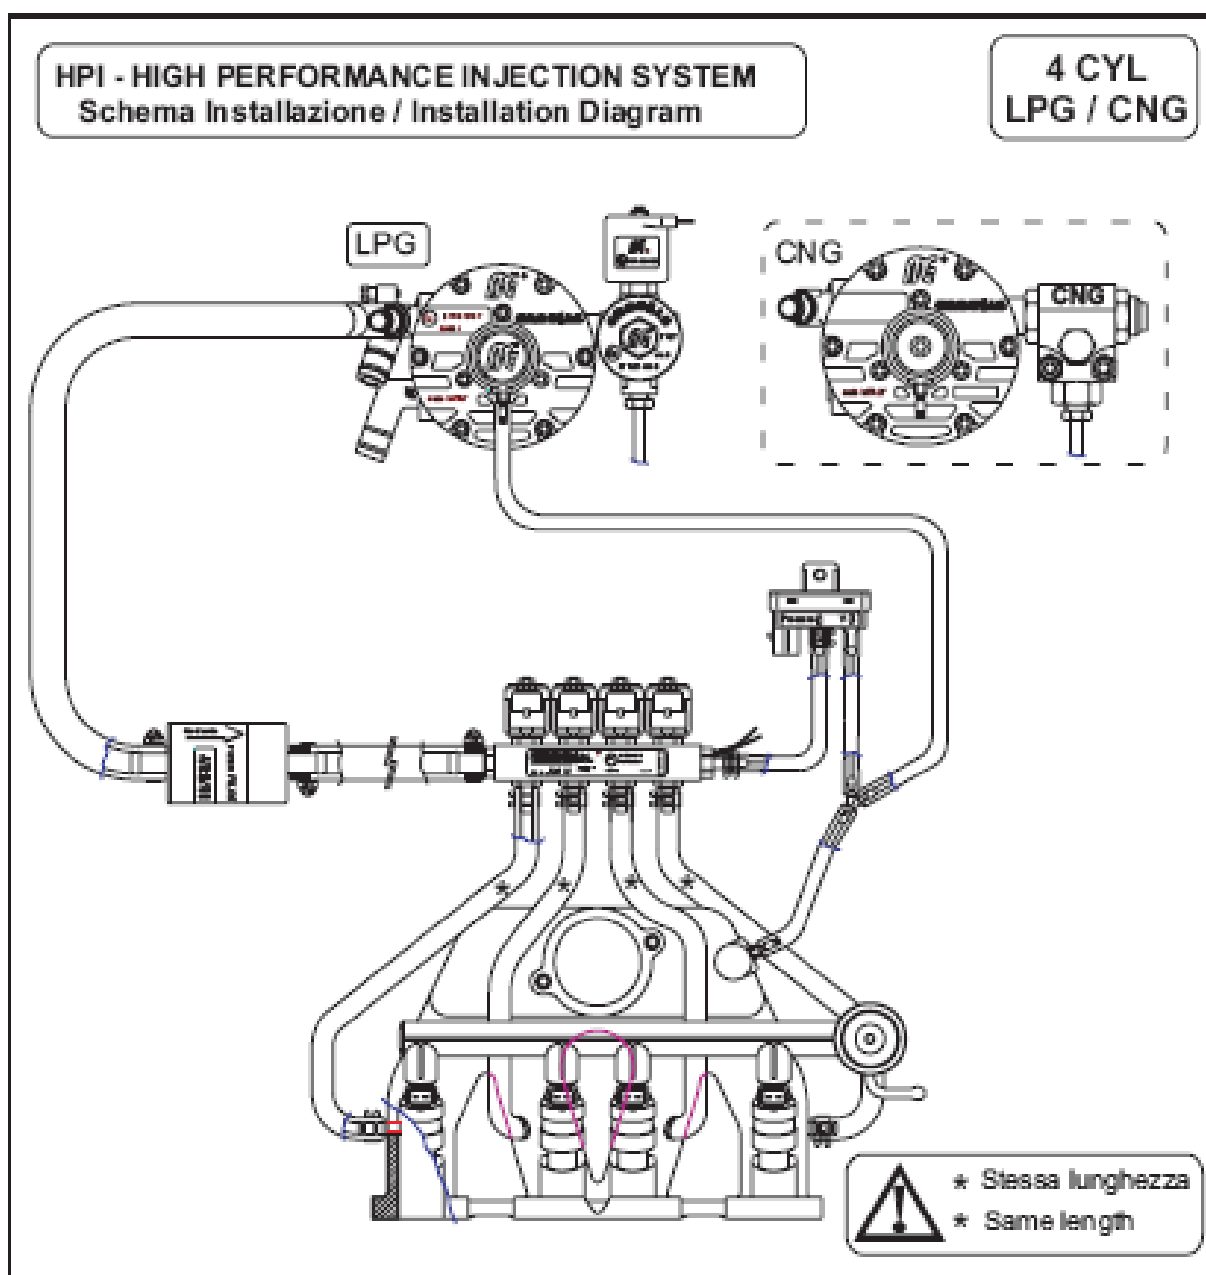

Fig. 5: 6 cylinder Installation Diagram
- Install all the components into the engine compartment on the basis of the below indicated 4 (Fig. 4), 6 (Fig. 5) or 8 (Fig. 6) cylinder **diagrams** and relevant instructions